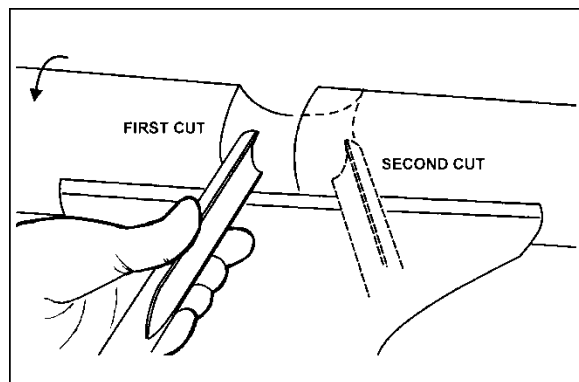

Figure 10-7
1. Use a spindle gouge. With the flute of the tool at 90 degrees to the workpiece, touch the point of the tool to the workpiece and roll in towards the bottom of the cove. See Figure 10-7. **Stop at the bottom; attempting to go up the opposite side may cause the tool to catch.**